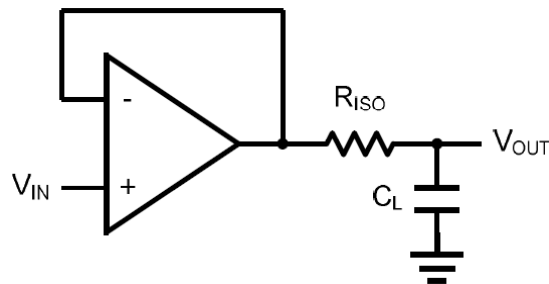
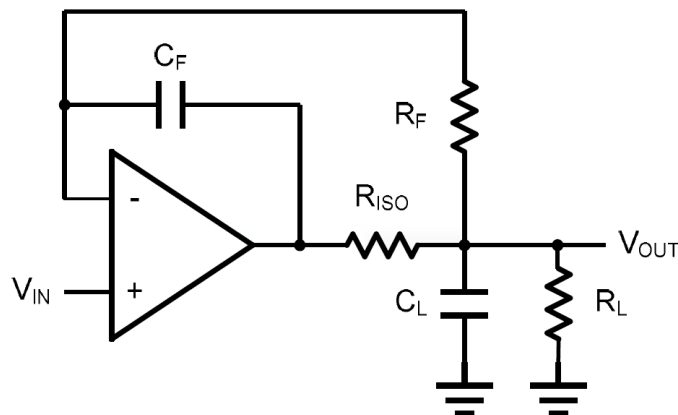

Figure 1. Indirectly Driving a Capacitive Load Using Isolation Resistor
Figure 2. Indirectly Driving a Capacitive Load with DC Accuracy
The AO1521 is optimized for bandwidth and speed, not for driving capacitive loads. Output capacitance will create a pole in the amplifier's feedback path, leading to excessive peaking and potential oscillation. If dealing with load capacitance is a requirement of the application, the two strategies to consider are (1) using a small resistor in series with the amplifier's output and the load capacitance and (2) reducing the bandwidth of the amplifier's feedback loop by increasing the overall noise gain. Figure 1 shown a unity gain follower using the series resistor strategy. The resistor isolates the output from the capacitance and, more importantly, creates a zero in the feedback path that compensates for the pole created by the output capacitance.
The circuit in Figure 2 is an improvement to the one in Figure 1 R_F provides the DC accuracy by feed-forward the V_{IN} to R_L . C_F and R_{ISO} serve to counteract the loss of phase margin by feeding the high frequency component of the output signal back to the amplifier's inverting input, thereby preserving the phase margin in the overall feedback loop. Capacitive drive can be increased by increasing the value of C_F . This in turn will slow down the pulse response.